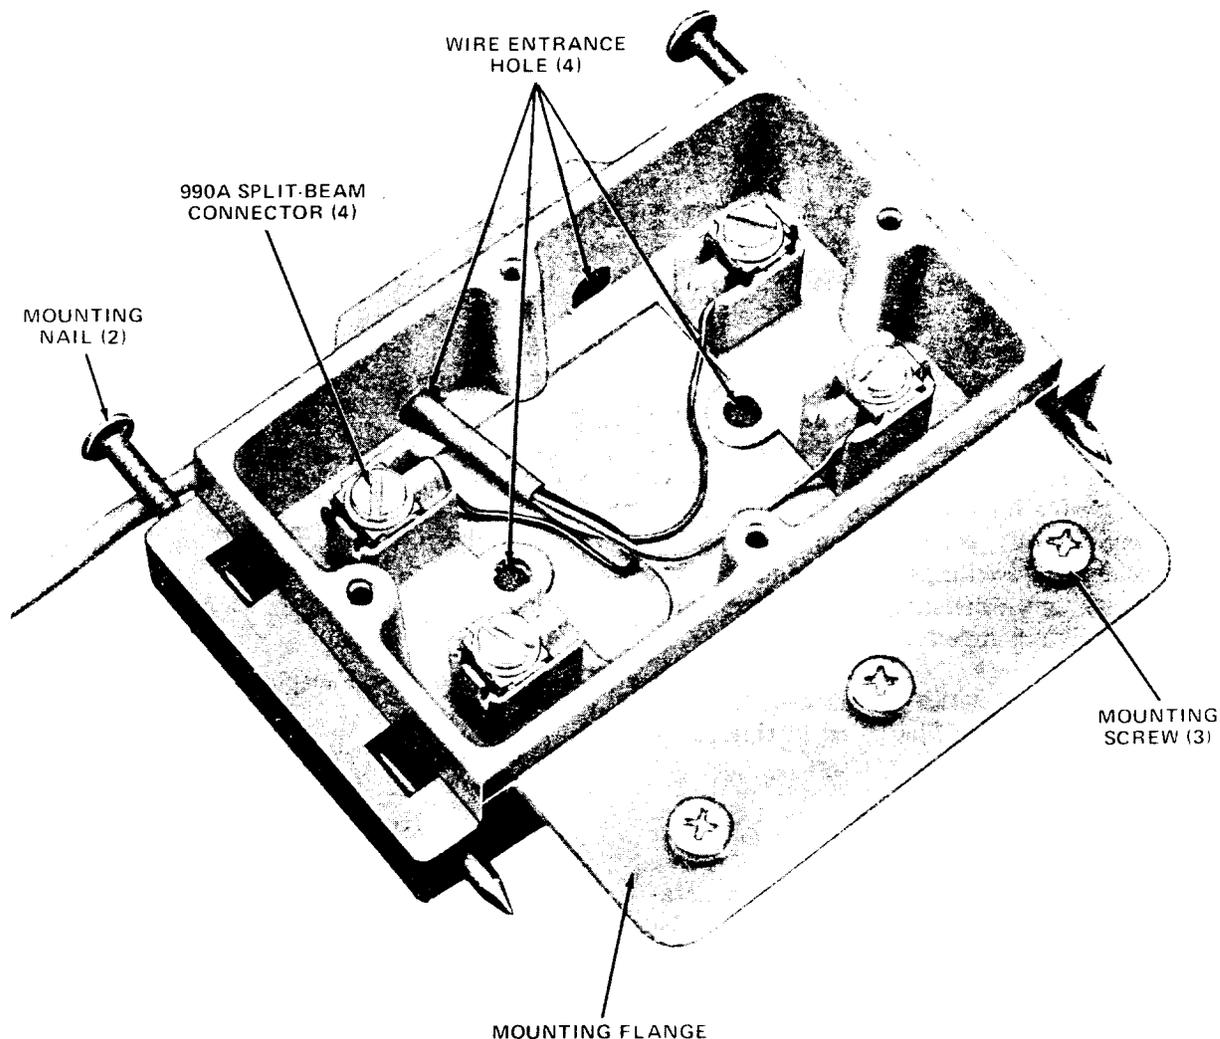

Fig. 1—800C Station Wire Box (Without Temporary Cover)
A. 800C Station Wire Box and Cover (Fig. 1 and 2)